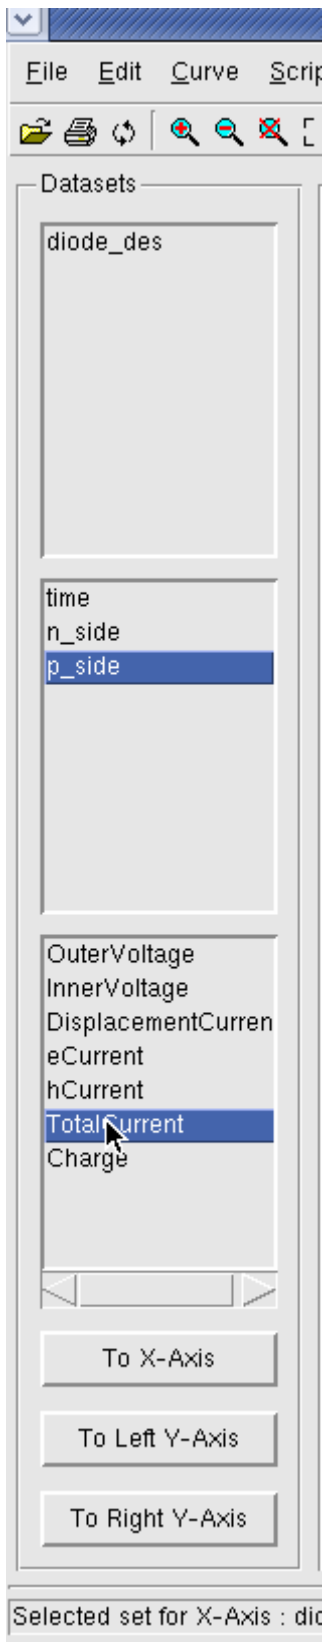
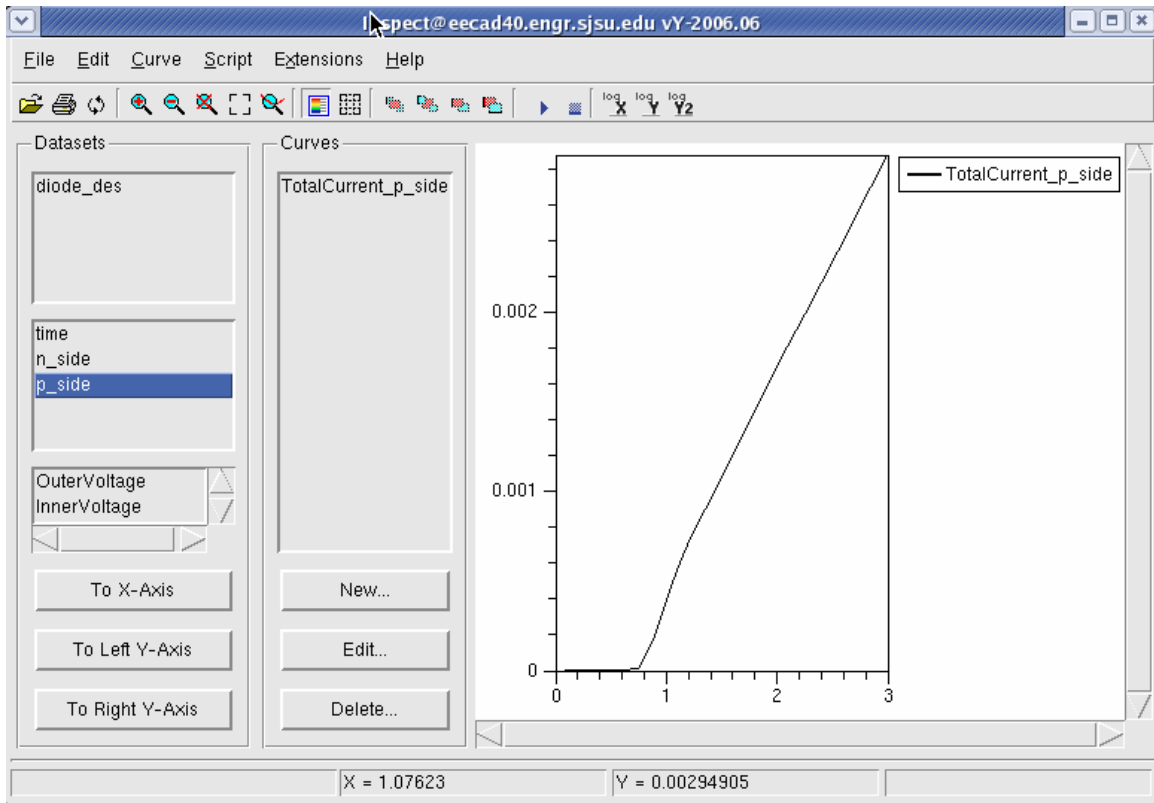
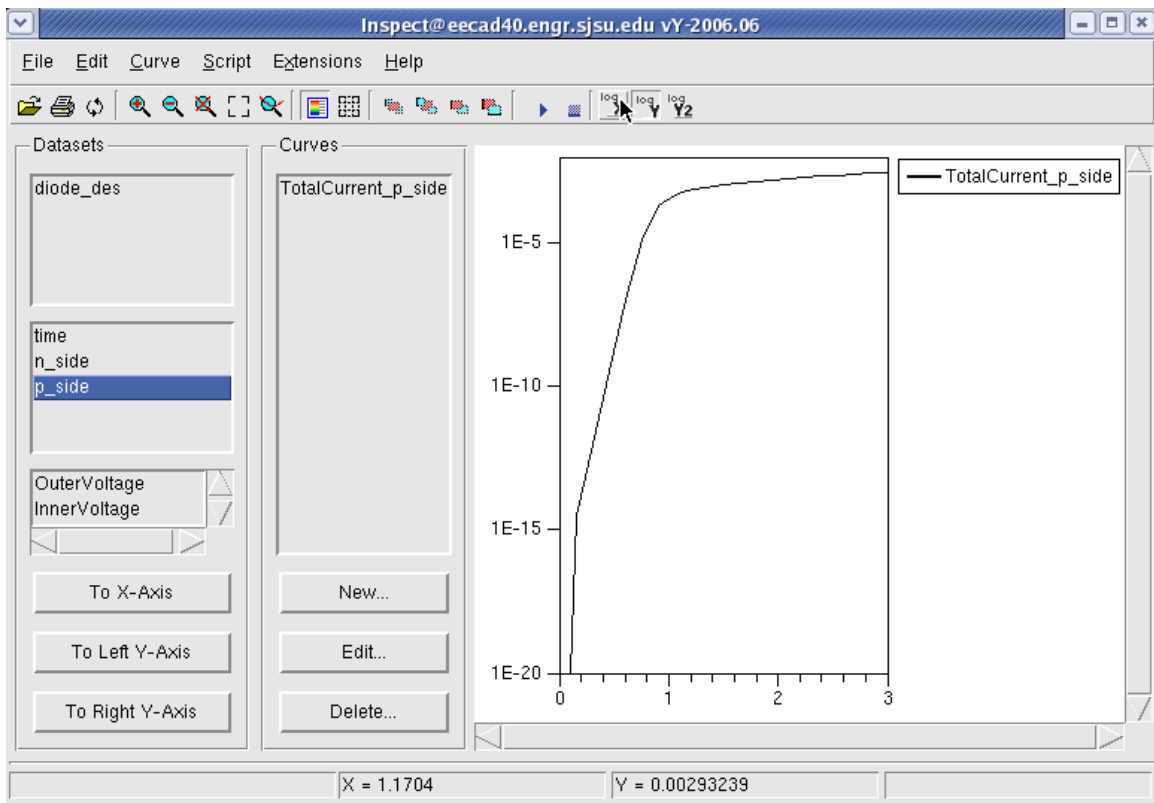

Figure 111: Assigning y-axis.
Figure 112: Electrical results of a forward biased diode.
Figure 113: Forward bias diode Log scale.
4. Click on n_side TotalCurrewnt and assign to left y-axis (Figure 111). You should see a forward biased diode's characteristics (Figure 112). Try plotting the y axis in log scale (Figure 113).